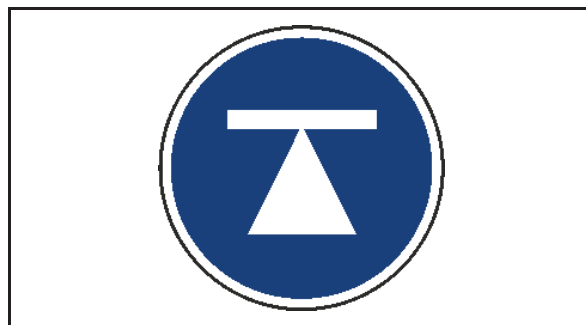

Fig. 304
2. Lift the machine at one of the marked application points (Fig. 304).